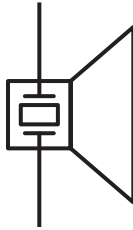

Figure 4-38: Piezo schematic
The schematic symbol for the piezo looks like a loudspeaker (Figure 4-38), which makes it easy to recognize.
**NOTE** When shopping for a piezo for this project, be sure to get the piezo element only type; some buzzer types look like Figure 4-38 but include a tone-generating circuit built into the case. We don't want those because we're going to drive our tone directly from the Arduino.